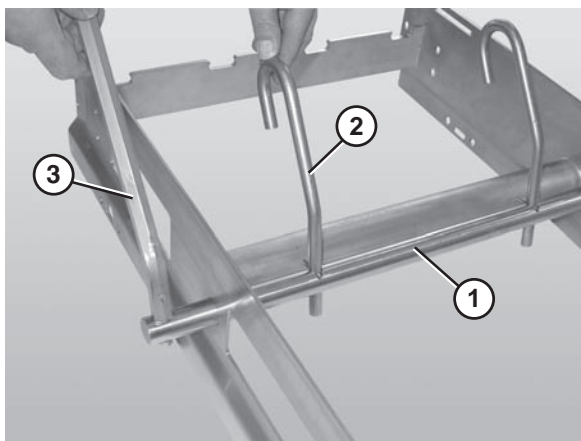

Figure 22
1. Slide the belt lift pivot bar (Figure 22, item 1) through the designated holes in the frame.
2. Attach the lifter bars (Figure 22, item 2) to the belt lift pivot bar (Figure 22, item 1). Make sure the hooked ends of the lifter bars are facing down when resting against the frame.
3. Attach the lifter handle (Figure 22, item 3) to the belt lift pivot rod.